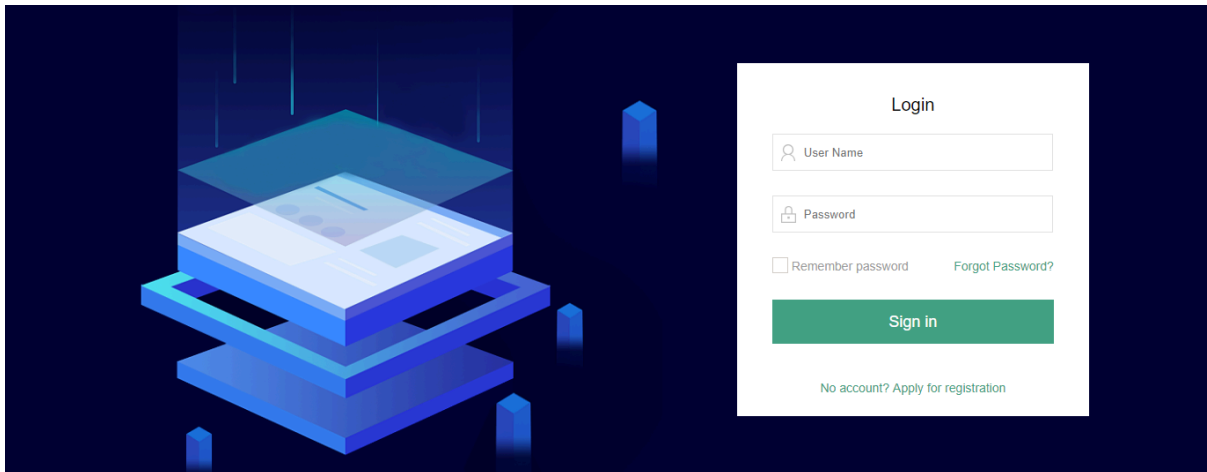

Figure 1
1. Enter the platform, as shown in Figure 1: